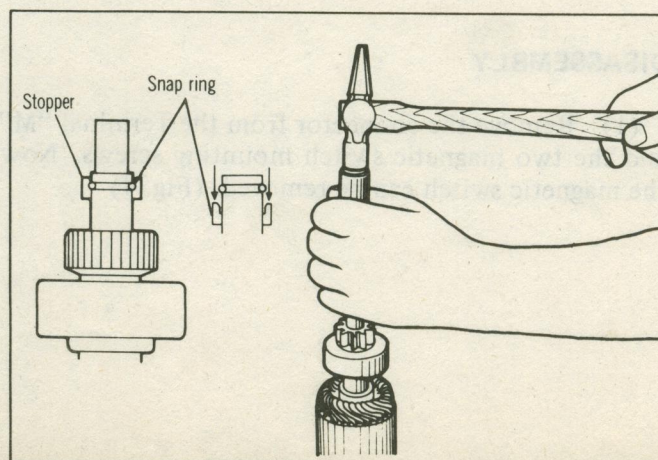

Fig. 9 Removing Overrunning Clutch
(6) Push the stopper toward the pinion, remove the snap ring, and pull off the stopper and overrunning clutch from the armature shaft (Fig. 9)